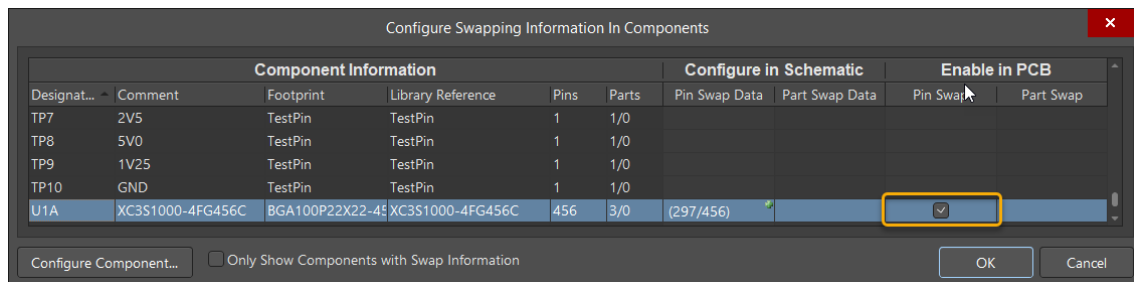

Figure 6. Pin Swap Enabled for U1A in Configure Swapping Information In Components Dialog
21. Ensure that the **Pin Swap** checkbox is enabled for U1A, as shown in Figure 6, and select **OK**.